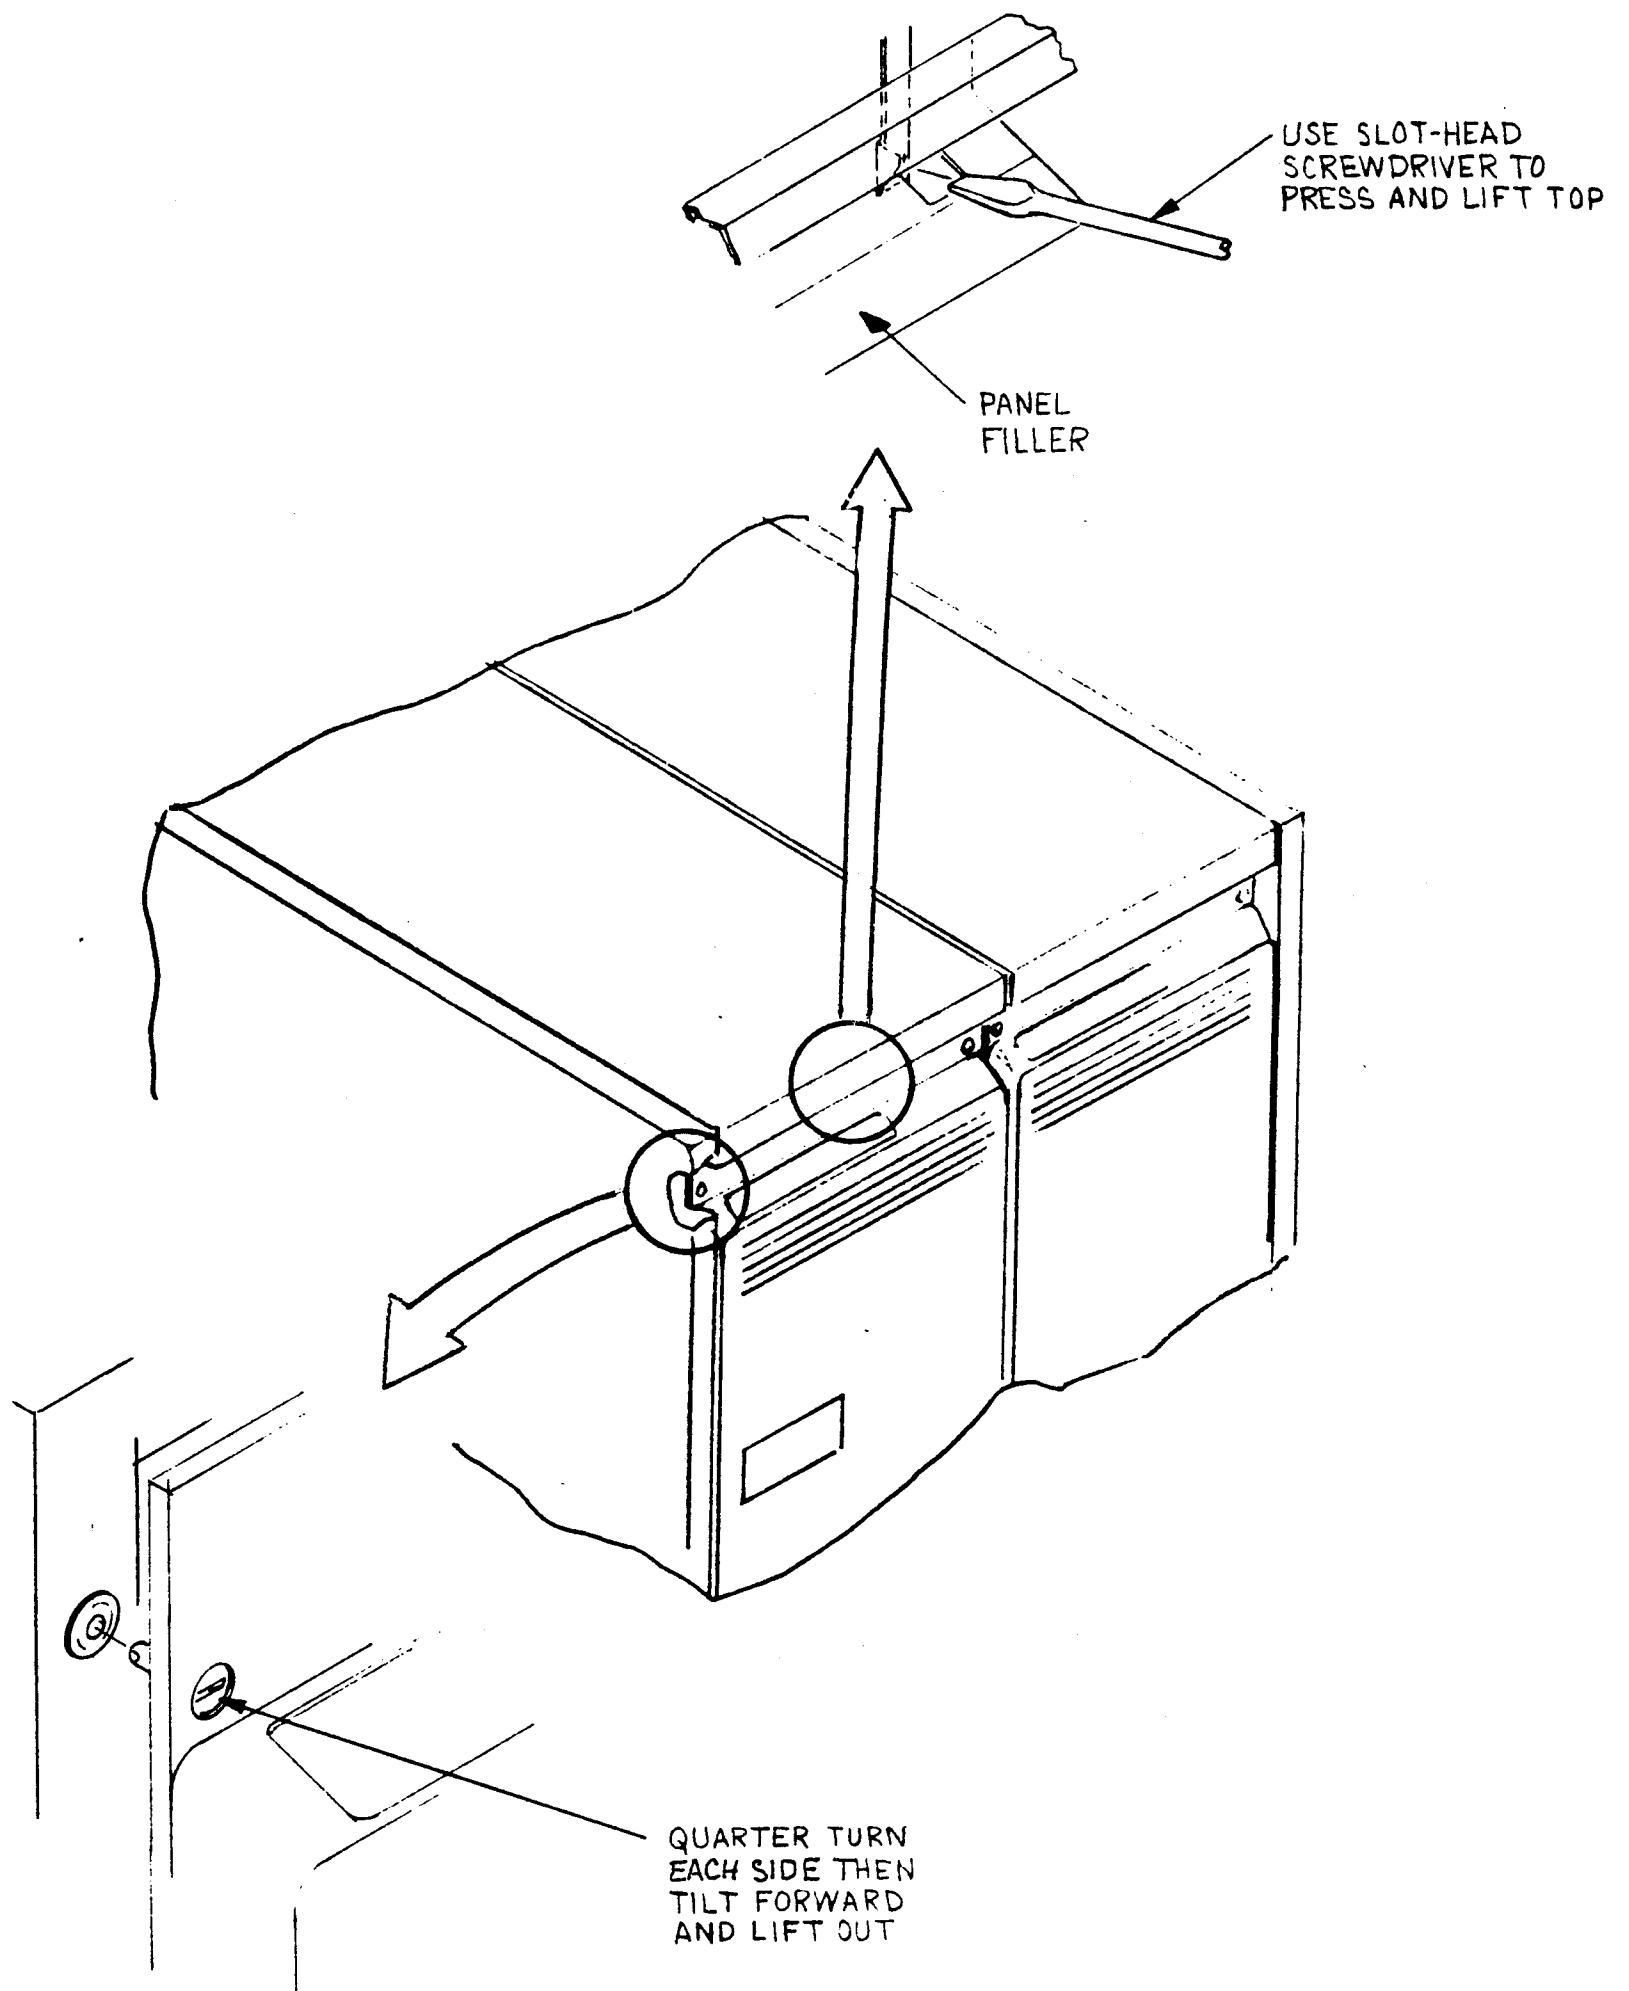

Figure 5-2. Removal of Front, Top, and Side Panels, Series 7000 Systems
3. Remove the Mainframe/Add-on Module front and top panels as shown in figure 5-2. Remove left or right side panels as required.